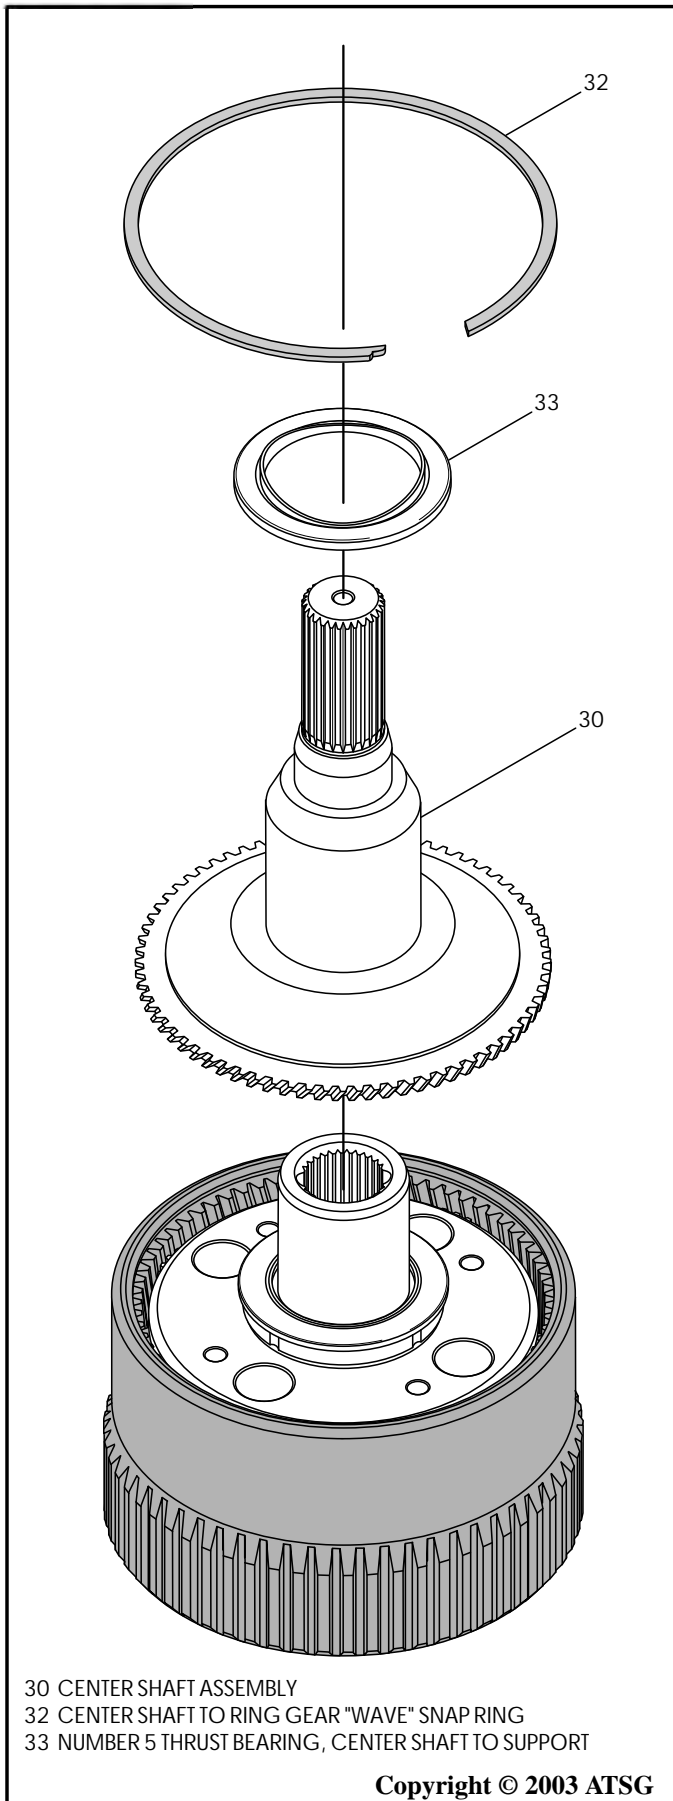

Figure 146
11. Install the overdrive center shaft onto overdrive planetary carrier, as shown in Figure 146.
12. Install the *wave* center shaft snap ring into the groove in ring gear, as shown in Figure 146.
13. Install the number 5 thrust bearing on overdrive center shaft, in direction shown in Figure 146, and retain with Trans-Jel®.